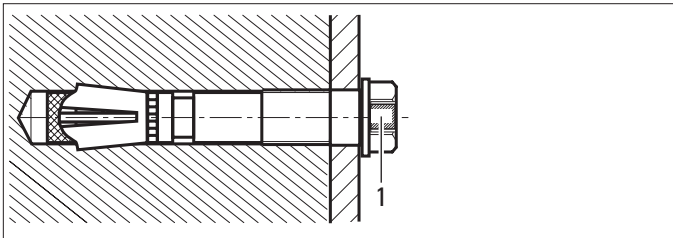

Fig. 2
⇒ Consult the HILTI representative if the green seal (1) of the anchor bolt is damaged. (Fig. 2)